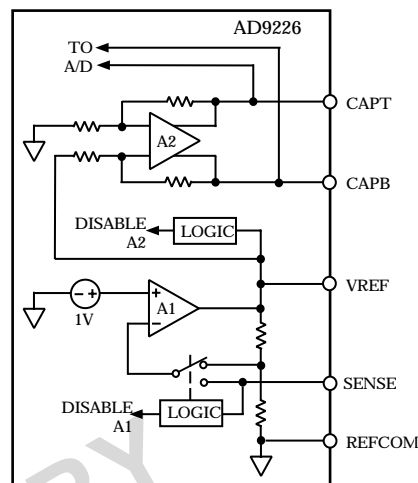

Figure 17 Equivalent Reference Circuit
The actual reference voltages used by the internal circuitry of the AD9226 appear on the CAPT and CAPB pins. For proper operation when using the internal or an external reference, it is necessary to add a capacitor network to decouple these pins. Figure 17 shows the recommended decoupling network. This capacitive network performs the following three functions: (1) along with the reference amplifier, A2, it provides a low source impedance over a large frequency range to drive the A/D internal circuitry, (2) it provides the necessary compensation for A2, and (3) it bandlimits the noise contribution from the reference. The turn-on time of the reference voltage appearing between
Please refer to the Driving the Analog Inputs section for a discussion of this topic. Also, the figures do not show the decoupling network associated with the CAPT and CAPB pins. Please refer to the Reference Operation section for a discussion of the internal reference circuitry and the recommended decoupling network shown in Figure 17.